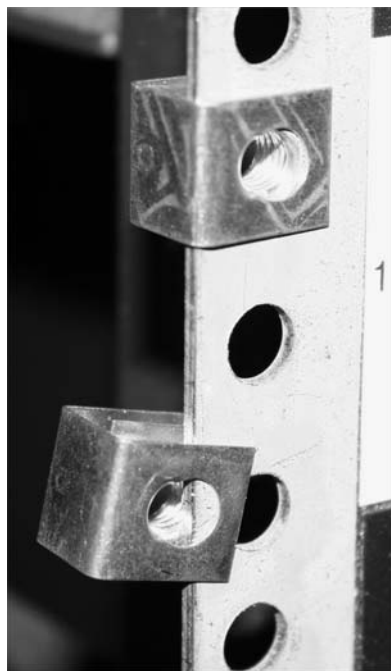

Figure 13. Positioning the clips
2. Position the four “C” clips in the rack’s mounting bar. See Figure 13.